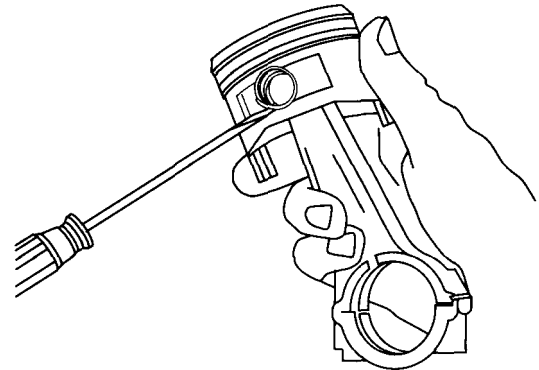

Figure 12-2. Remove Piston Pin Locks
2. Disassemble piston from connecting rod, Figure 12-2.